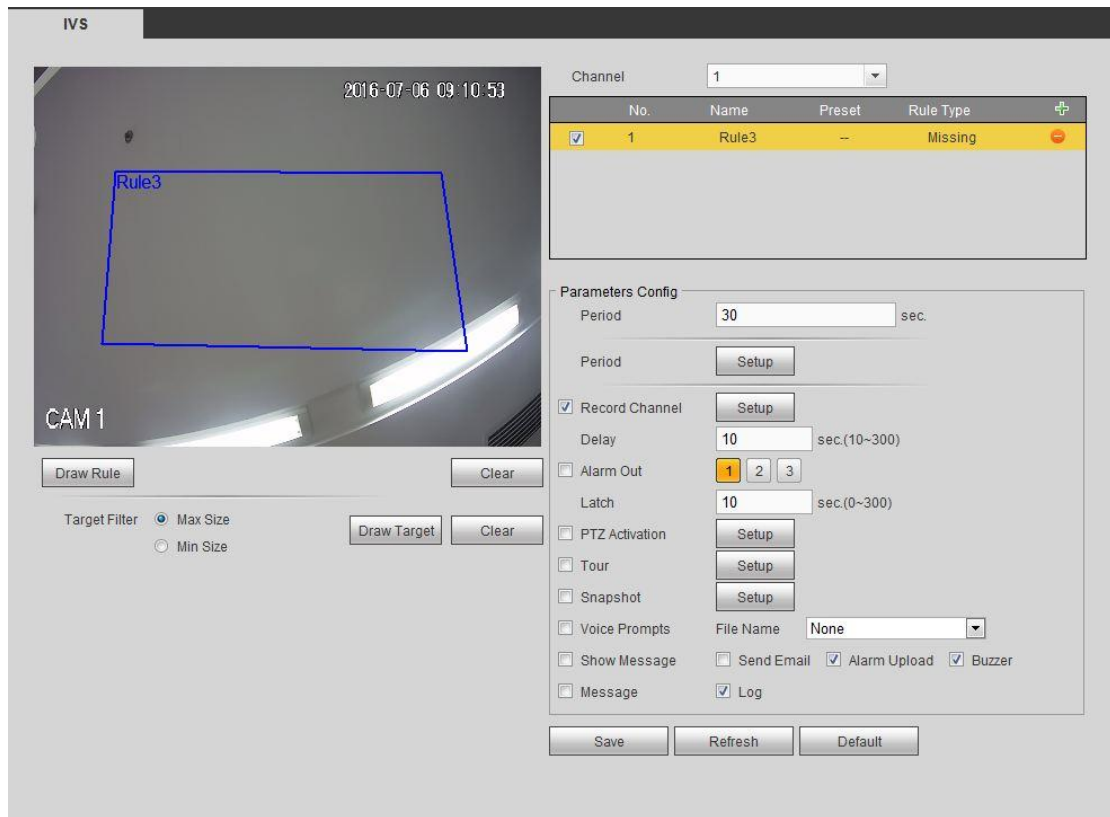

Figure 5-75
Step 3 Click Draw rule button and then left click mouse to draw a zone. Right click mouse to complete. See Figure 5-75.